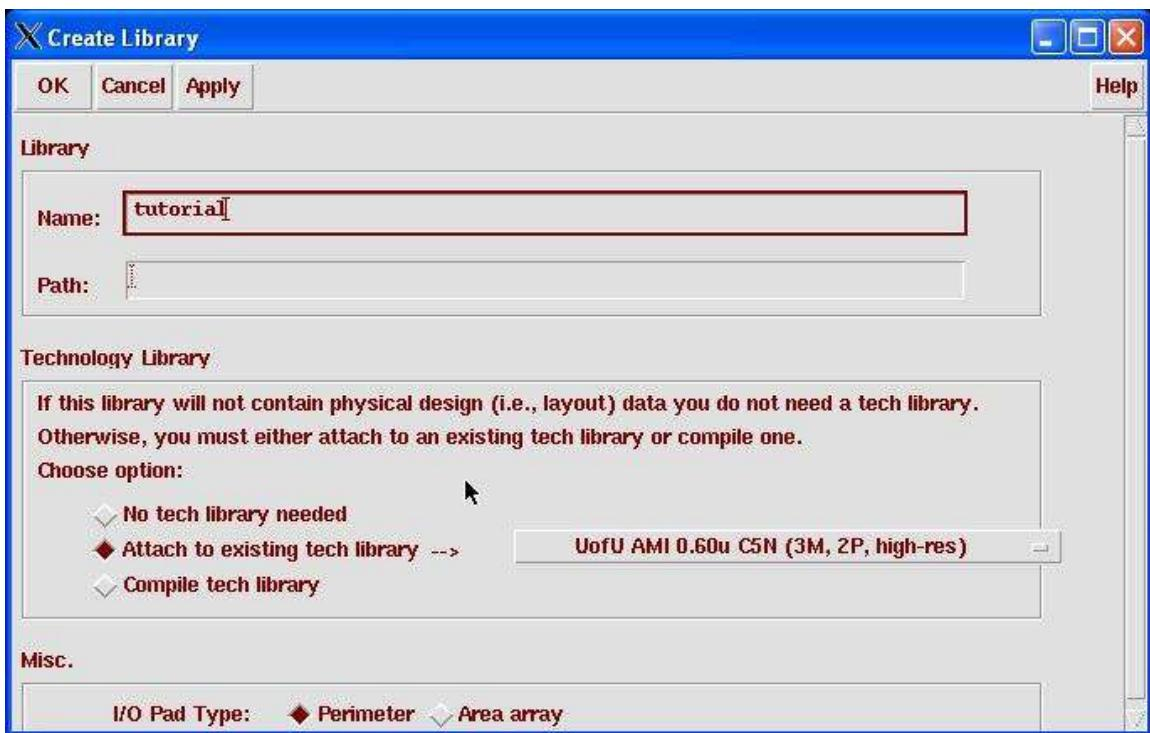

Figure 3.1: Library creation dialog box in Library Manager
3. In order to build your own schematics, you'll need to define your own library for your own circuits. To create a new working library in the library manager, select **File** → **New** → **Library**. In the **Create Library** window that appears fill in the Name field as **tutorial**, or whatever you'd like to call your library. Leave the **Path** field blank so that it creates the new library under the directory in which you started Cadence. If you want to create a library somewhere other than in your `7IC_CAD/cadence` directory you can put the whole path in the path field. In the **Technology Library** box select **Attach to an existing tech library** and choose the **UofU AMI 0.60u C5N** technology library. The dialog box is shown in Figure 3.1 Now press OK and the new library will show up in your Library Manager window.